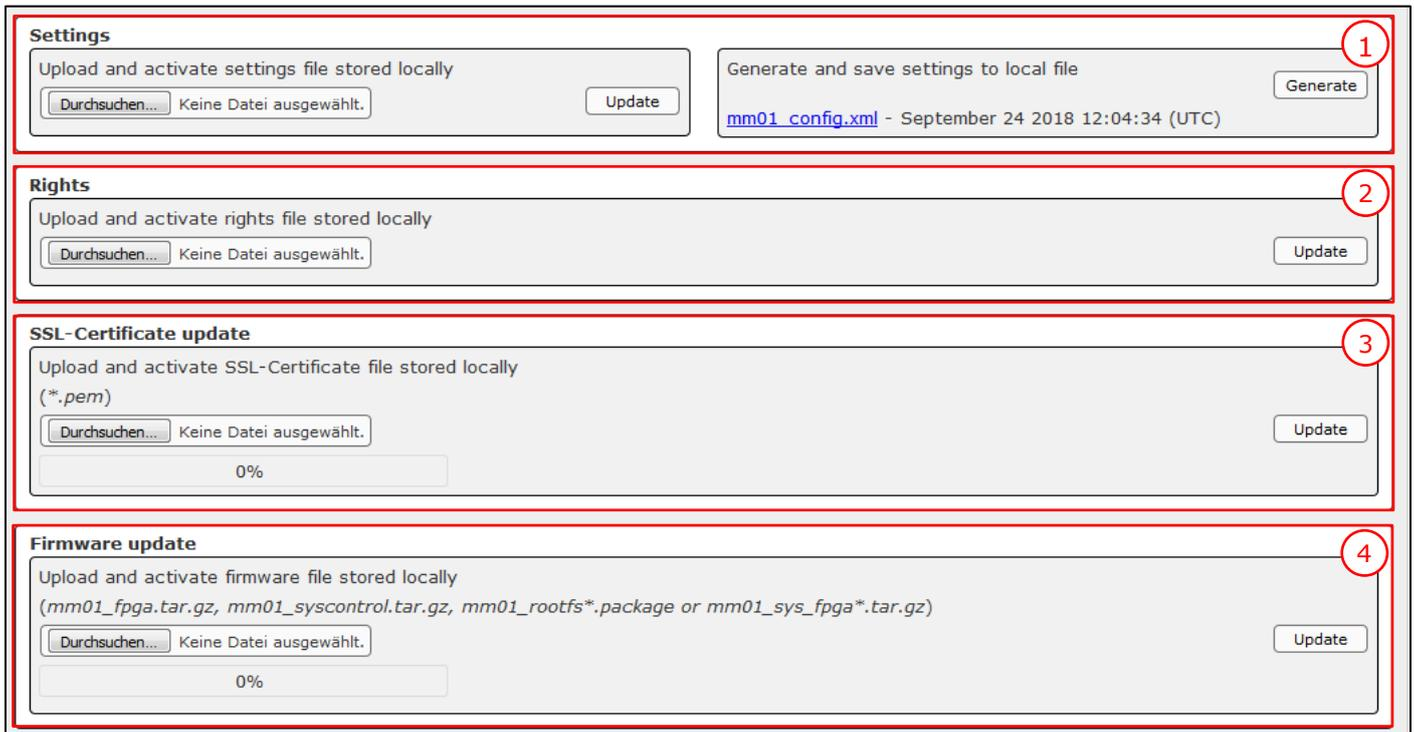

Figure 67: System Settings - Global
2. Click the Browse button in the **Settings** field (see Figure 67, #1). The "Open file" dialog of your system software will be displayed.
1. Open the window *Global* under **System Settings→Global** (see Figure 67, #1).